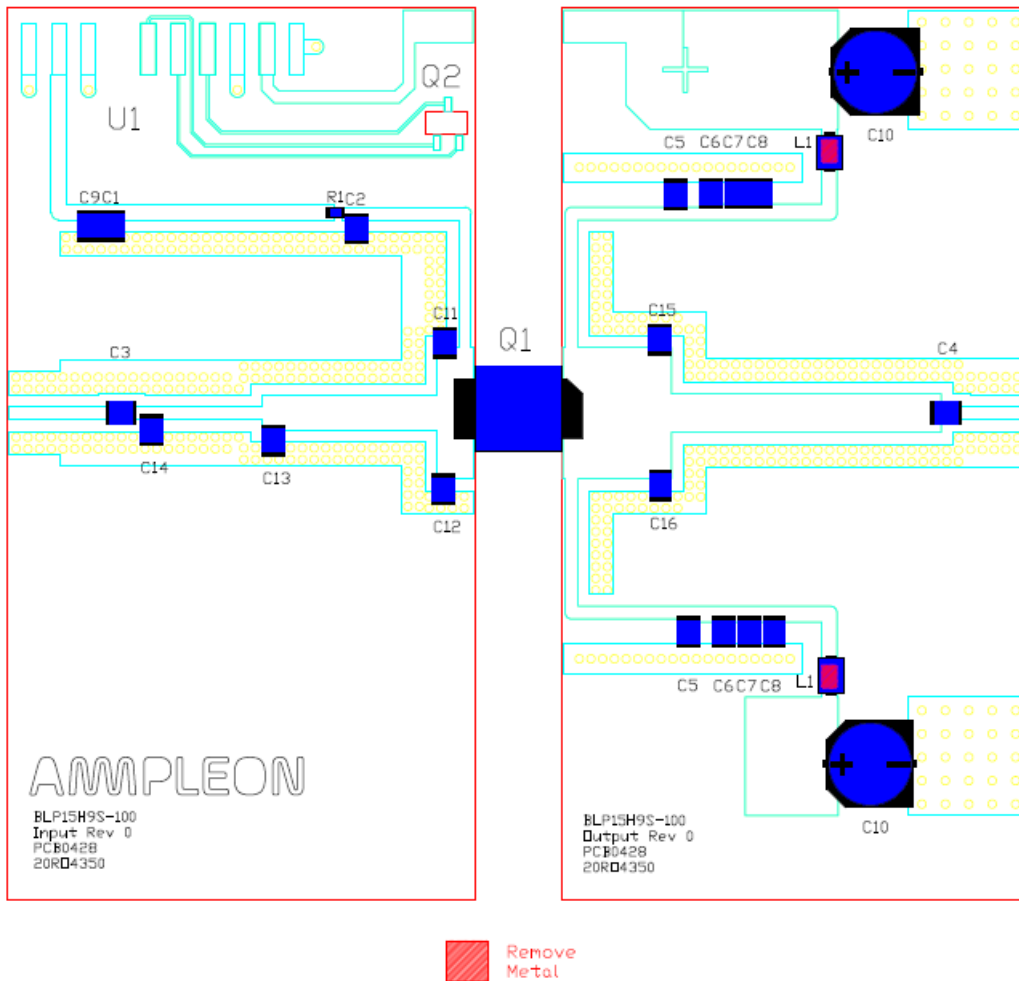

Figure 9. PCB layout and assembly
- Figure 9. PCB layout and assembly 14